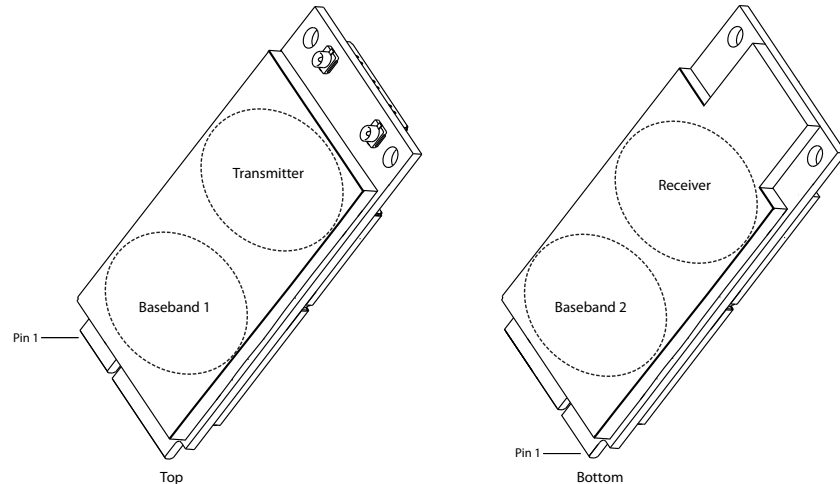

Figure 8-4: Shield locations
Specific areas requiring heat dissipation are shown in Figure 8-4:
- Monitor temperature at all shield locations. Attach thermocouples to the areas indicated in Figure 8-4 on page 56 (Transmitter, Baseband 1, Receiver, Baseband 2).